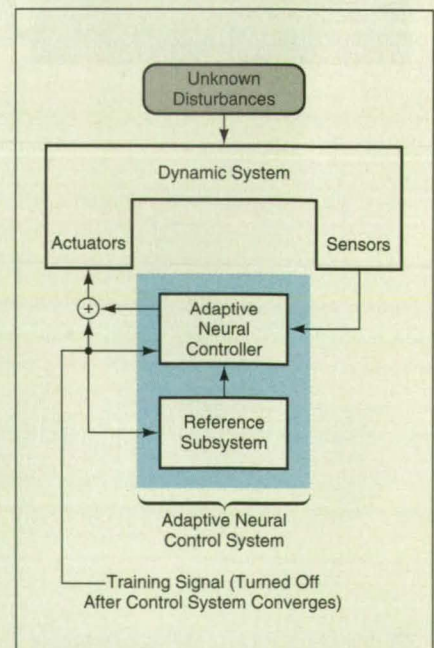

Figure 1. The **Adaptive Neural Control System** is trained to implement a model-reference adaptive control scheme.
The asynchronous digital latching circuit shown in Figure 1 is designed for use in a safety-related application like turning off power in response to an alarm signal. During normal operation in the absence of an alarm, the "set" (S) and "reset" input voltages are low or off, while the output voltage (Q) is high or on. The "set" input constitutes the alarm signal: whenever "S" goes high (on), Q goes low (off), and thereafter remains low, even when S goes low. Thus, for example, the circuit keeps a power supply turned off even when the alarm has been shut off (see Figure 2).
Figure 1. The Asynchronous Digital Latching Circuit is made of standard transistor/transistor logic (TTL) devices. U1 is a hex inverter, U2 is a quad dual-input AND gate, and U3 is a quad dual-input OR gate.
A control system of the type in question (see Figure 1) implements a model-reference adaptive control (MRAC) scheme. In MRAC, identical training stimuli are applied to both a dynamic system subject to unknown disturbances and to a reference subsystem, which is an idealized mathematical model of the dynamic system implemented in software. The sensor outputs (converted to time series of digitized samples) from the dynamic system are compared with corresponding sensor outputs from the reference subsystem. This comparison yields an error signal, which drives the adaptation of the con-
trol system based on the use of a digital computer with feedbacks of such parameters as flightpath angle, pitch rate, bank angle, and yaw rate (see Figure 1). The flightpath command from the pilot is compared with the measured flightpath, and, using the pitch rate for phugoid damping, collective throttle is commanded to achieve the desired flightpath. The time required to achieve a flightpath command is between 7 and 10 seconds. The bank-angle command from the pilot is compared with the measured bank angle, and, by use of the yaw rate to stabilize the Dutch roll, differential throttle is commanded to satisfy the bank-angle command. A small bank-angle command can be satisfied in about 5 seconds.
Figure 1. A PCA System can be installed in a multiple-engine airplane to obtain limited emergency maneuvering ability through computer control of engine thrust alone.